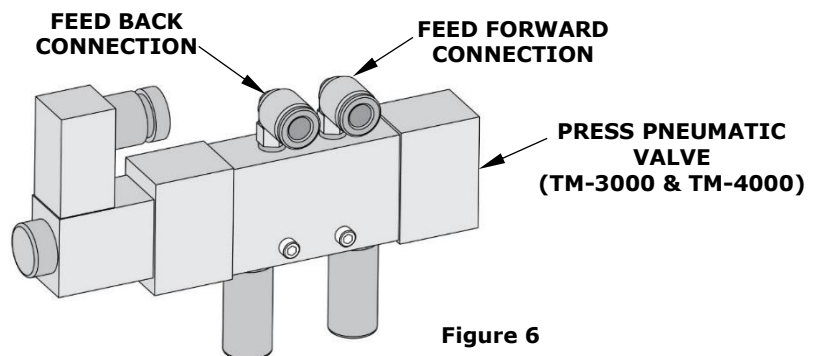

Figure 6
- When using the TM-3000 or TM-4000 presses, connect the tubes to the press pneumatic valve as shown in Figure 6.